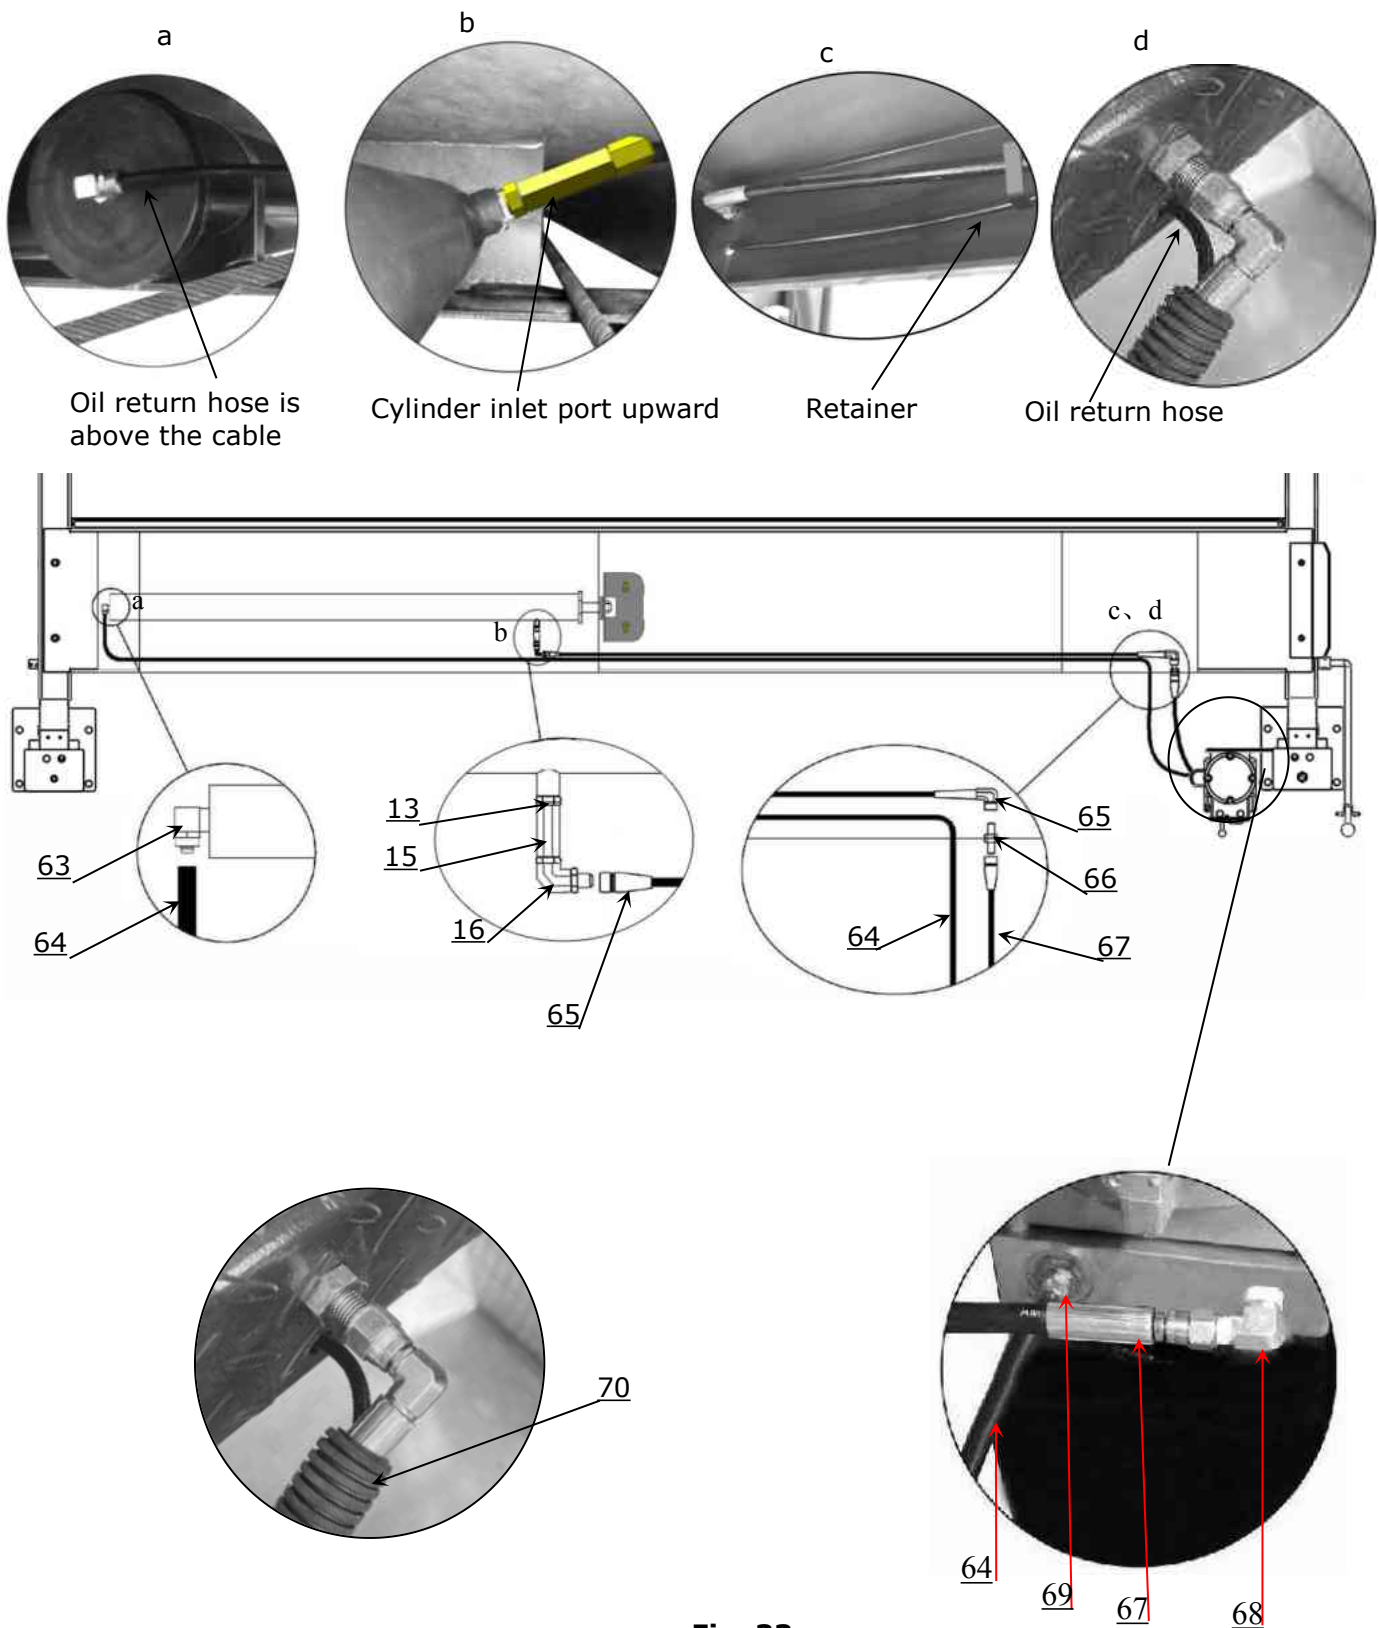

Fig. 33
1. For power unit installed to the column that connected to cross beam A (**See Fig. 33**)